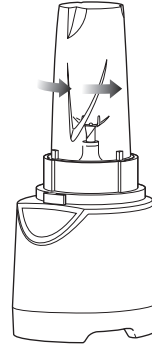
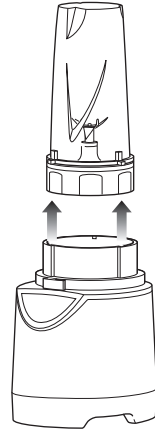

Fig. 4
Fig. 5
- 6 When you have reached your desired consistency, stop the appliance by removing your hand from the single serve cup. Then turn the single serve cup to the right (Fig. 4) and pull straight up to remove. (Fig. 5)
- 7 Push down on the "PULSE" on the handle to start the appliance. (Fig. 4)
- 9 To remove the lid, pull the lid handle up to a 90° angle. Turn the bowl clockwise to lift off the base. (Fig. 5, Fig. 6)